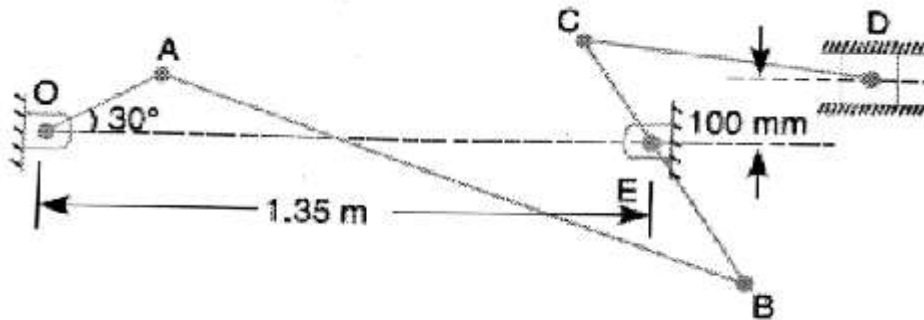

Fig.2
Q.3 A mechanism, as shown in fig.2 has the following dimensions: $OA = 200 \text{ mm}$; $AB = 1.5 \text{ m}$; $BC = 1560 \text{ mm}$; $CD = 500 \text{ mm}$ and $BE = 400 \text{ mm}$. Locate all the instantaneous centers. If crank OA rotates uniformly at 120 rpm . Clockwise, Find